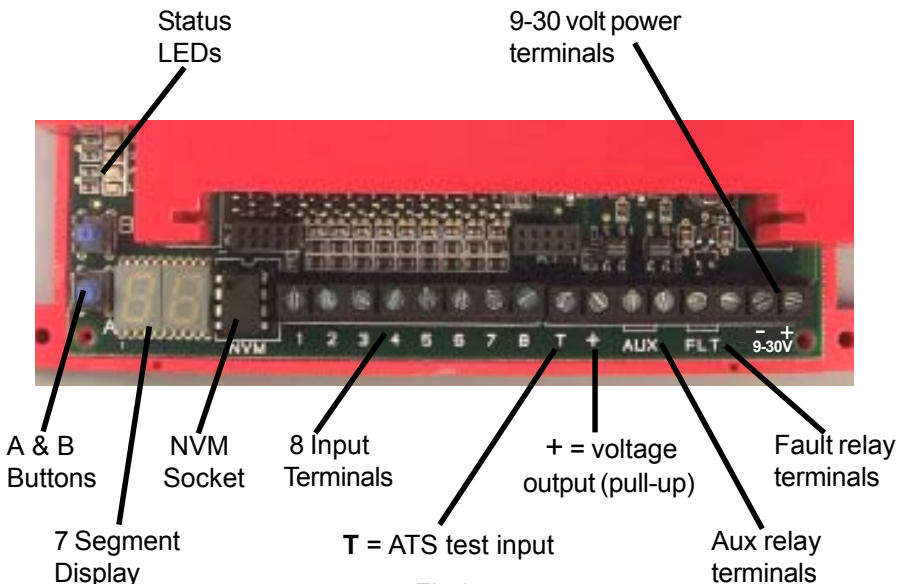

Fig 2
4. Connect the input triggers to the DualCom. See Fig 2 and Appendix 2. (This step is not required when the CS2325 Plug-on Adapter is used)
7. Connect the DualCom's '9-30v ' terminals to the Control Panel or Power Supply output (often called 'Aux supply' or 'DC power'). See Fig 2 and page 20. (This step is not required when the CS2325 Plug-on Adapter is used)
Note 2: The '+' terminal (next to the Aux terminals) is a voltage **output**. This terminal is **not** the supply connector. See Fig 2 and Appendix 2.